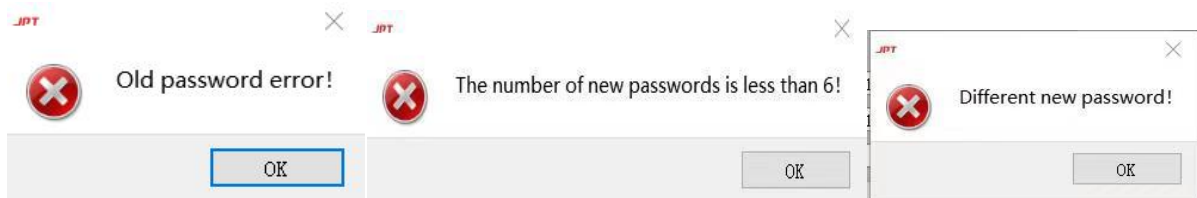

Figure 12
6) When changing the password, the following types of error prompts may appear, as shown in Figure 12. (Wrong password, new password should be more than 6 numbers...)